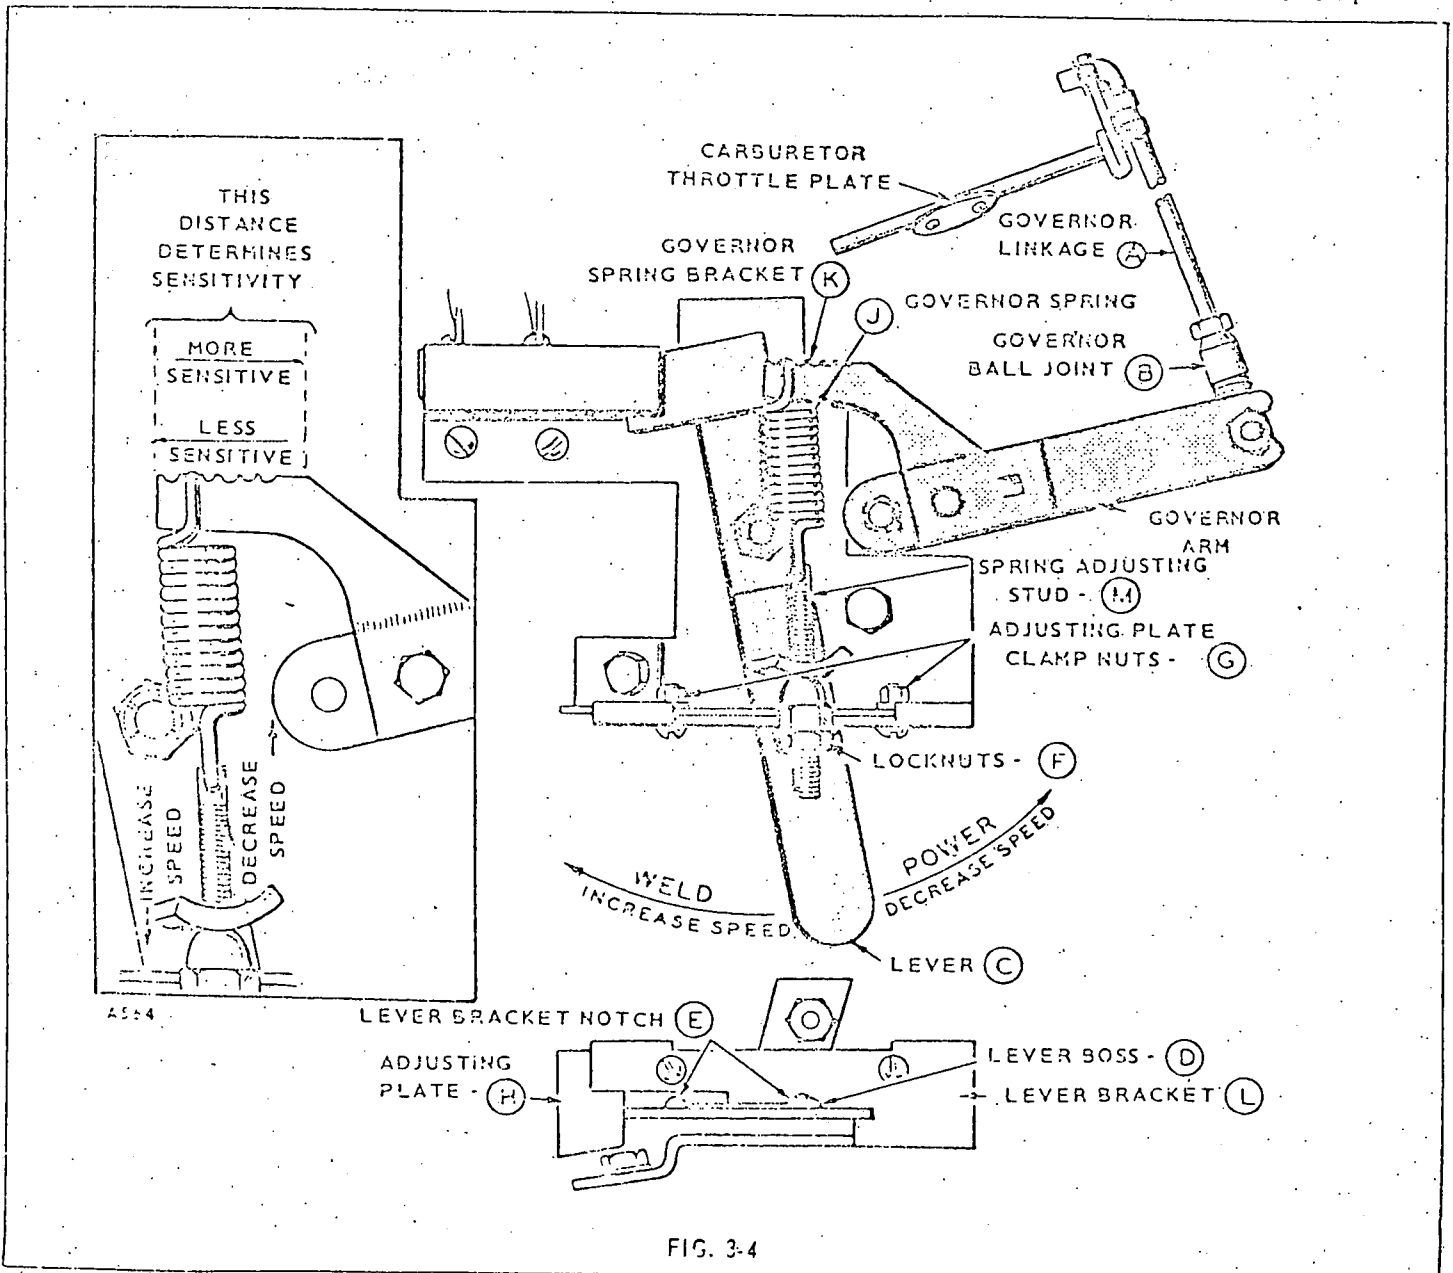

FIG. 3-4
1. Check the length of the linkage (A) which connects between the governor arm and the carburetor throttle
arm. This linkage synchronizes the governor arm travel with the carburetor throttle. If the original factory adjustment has been disturbed, adjust the length so that with the engine stopped and tension on the governor spring, the carburetor throttle lever stop projection is just touching the bottom surface of the carburetor body, then turn the governor ball joint (B) approximately two more complete turns to shorten the linkage (A). Now, tighten the lock nut. (See Fig. 3-4).
2. Set engine speed control lever (C) at the POWER position.